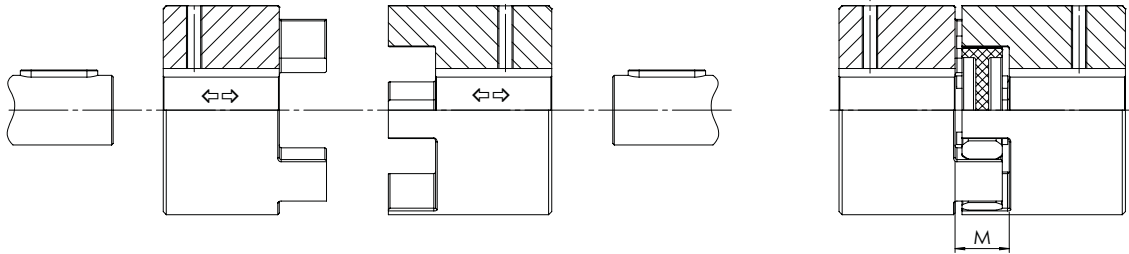

Figure 4.2 - TRASCO® ES: GESF mounting
- Install the hubs on the driving and driven shafts (see FIGURE 4-2)
- Check the driving and driven hub to achieve the value M (see FIGURE 4-2 and TABLE 4.1)
- Check the driving and driven hub to achieve the value M (see FIGURE 4-2 and TABLE 4.1 - M VALUE)